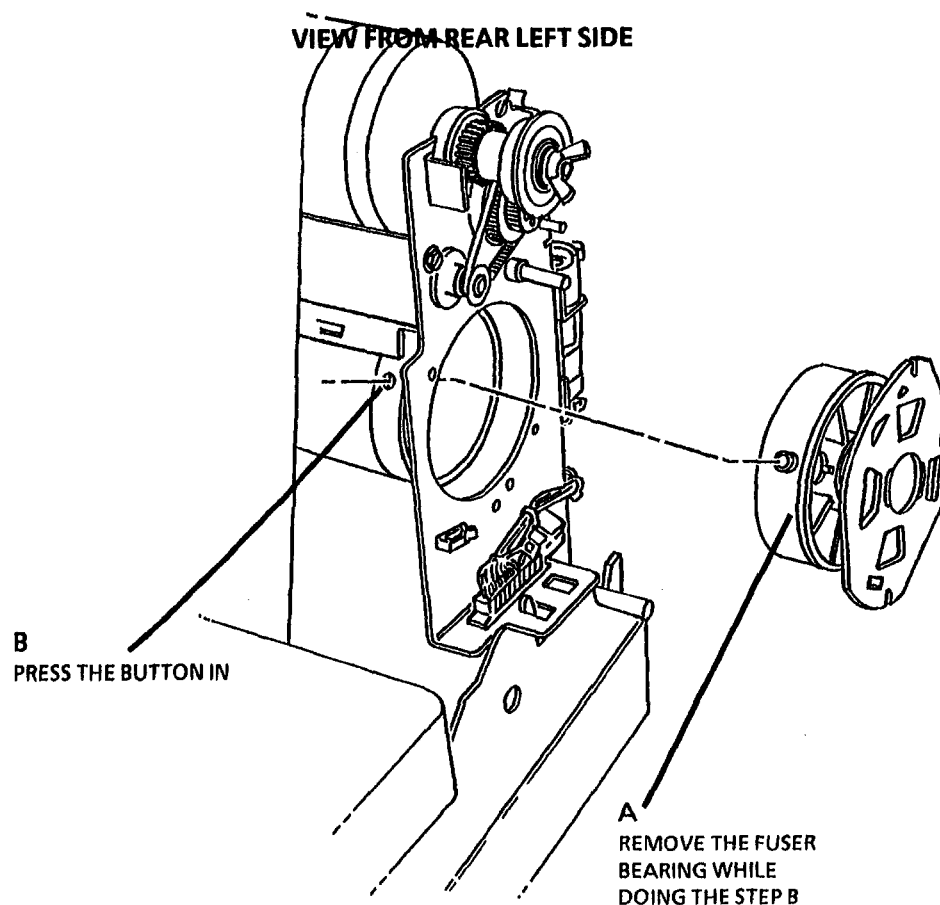

Figure 1. Prepare to Remove the Fuser Roll
2. (Figure 1): Prepare to Remove the Fuser Roll.